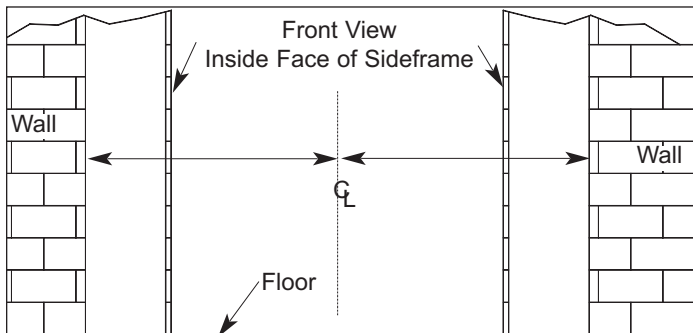

FIGURE 2
1. Measure between the door jamb and mark the centerline on the floor. From the centerline, measure over 1/2 O.D.W. plus 1/4". This will offset the location of the sideframe to allow for the door seals, **Figure 2**.
2. Measure across the door opening from sideframe mark to sideframe mark to double check the overall dimension, **Figure 2**. Make sure that the distance between the marks does not vary more than 1/8".
6. Install the sideframe first that required little or no shimming. Use a 6' level to make sure that the sideframe is plumb to the wall in both directions, **Figure 2**.